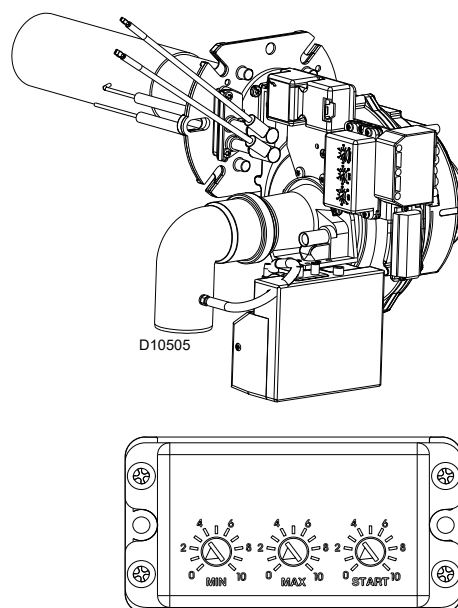

Fig. 14
- Check the trimmer settings on the control box (Fig. 14).
The proportioning gas train delivers the right amount of fuel, depending on the pressure detected in the purging circuit. Hence the output delivered is adjusted by varying the motor's speed of rotation. The speed of the motor can be adjusted by means of three "Trimmers" (Fig. 14).
Maximum output should match the value required by the boiler that is used. To increase or decrease its value, adjust the trimmer MAX located on the control box (Fig. 14).
Minimum output should match the value required by the boiler that is used. To increase or decrease its value, adjust the trimmer MIN located on the control box (Fig. 14).
The **ignition output** can be varied by acting on the Trimmer START located on the control box (Fig. 14).